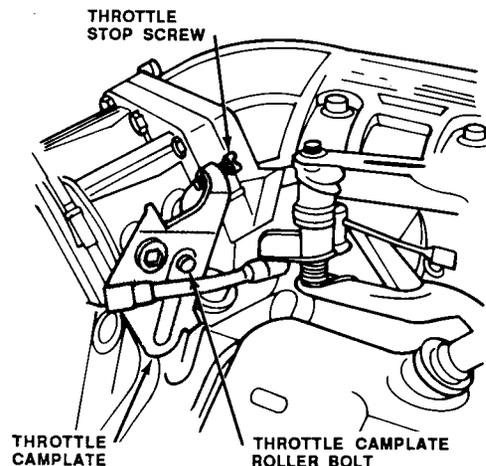

Figure F050-11
3. Loosen the throttle camplate roller bolt (Figure F050-11).